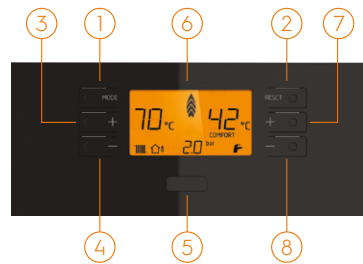

Figure 43 Control Panel of Enerwa Plus H Boilers
When the boiler is in this position, it operates both for heating the ambient (if a boiler is fitted) and producing domestic hot water. Heating system temperature setting set with no (3) and (4) buttons in Figure 43, and Hot Domestic Water temperature is set with no (7) and (8) buttons, and this temperature is shown on this display with no (10) indicator for Heating system and no (12) indicator for Hot Domestic Water.
Flame modulation symbol appears on middle part of the display when boiler starts operating. In this mode, you can adjust the temperature with temperature setting buttons (see Figure 43) temperature can be increased with (3) and reduced with (4) set between 35–80 °C, when these buttons are pushed, background light turns on and °C symbol and symbol blinks next to the temperature value.